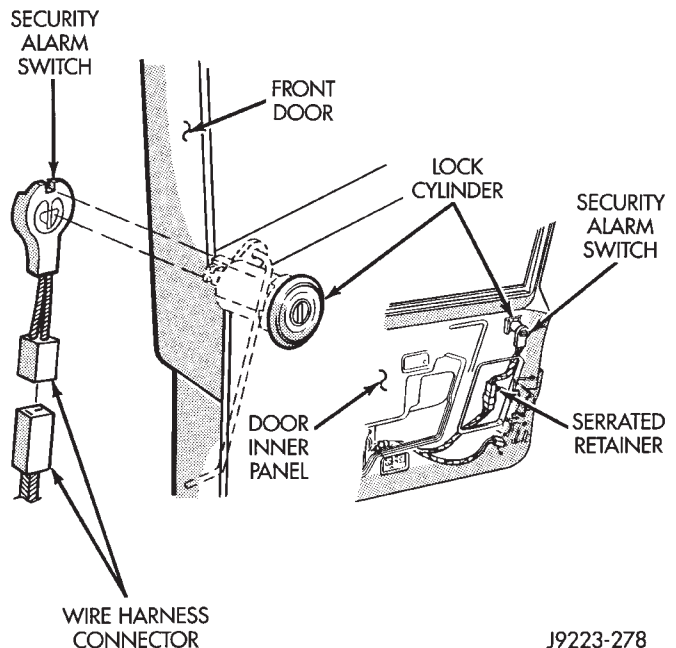

Fig. 12 Security Alarm Switch
- (3) If equipped, disconnect security alarm switch connector from lock cylinder (Fig. 12).
- (4) Remove key lock cylinder retainer clip. Remove